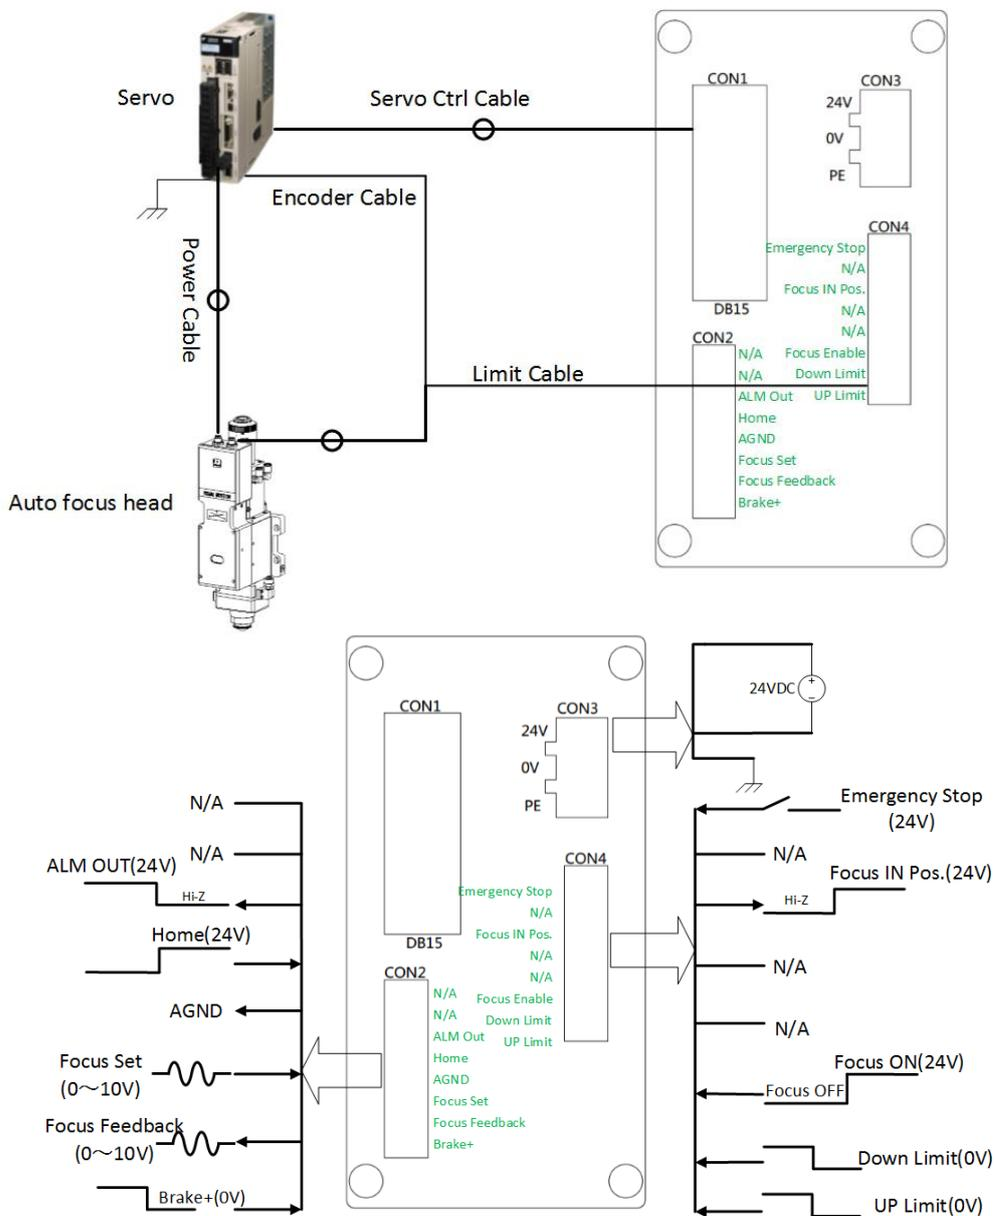

Figure 4.1—ETC\_F100 Wiring instruction
The motor is an ac servo motor, which is connected with 220V AC L and N at the driver terminals L1, L2, L1C and L2C. Details of connection method as shown in figure 4.1
2. Limit Signal: As shown in figure 4.1